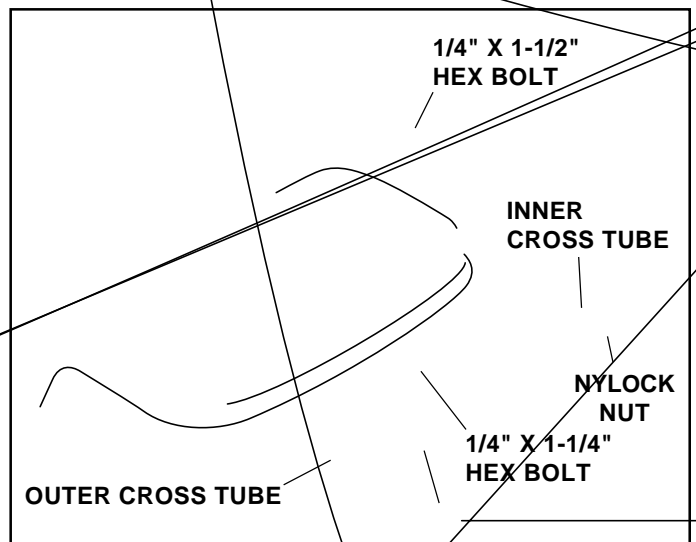

FIGURE 3
- Attach outer cross tube to inner cross tube using one 1/4" x 1-1/4" bolt and one 1/4" nylock nut. Select the hole that gives the best fit. See figure 3.
- Attach the assembled cross tubes to the right and left base tubes using two 1/4" x 1-1/2" hex bolts and two 1/4" nylock nuts. Tighten all bolts. See figure 3.